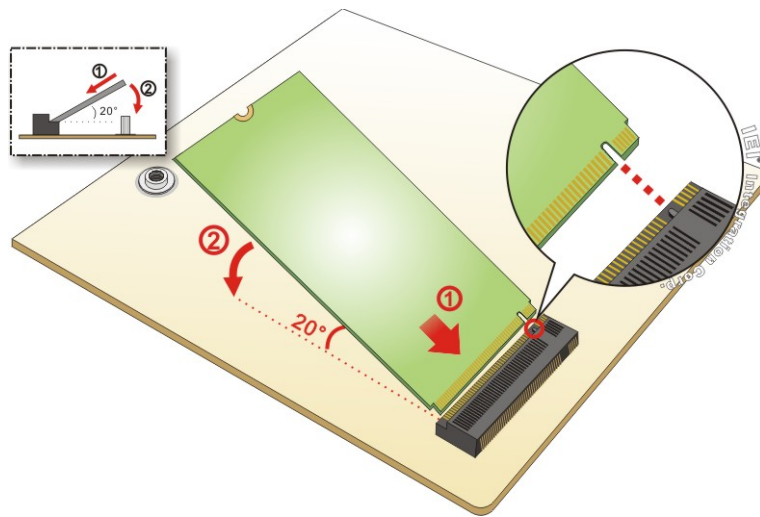

Figure 3-14: Inserting the M.2 Module into the Slot at an Angle
Step 4: Line up the notch on the module with the notch on the slot. Slide the M.2 module into the socket at an angle of about 20° (**Figure 3-14**).